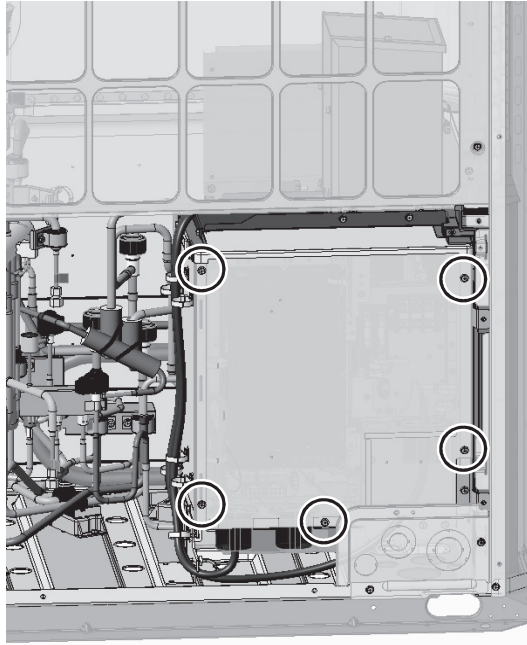

Figure 1
- (1) Ensure there is adequate work space. (See 8-12-1.)
- (2) Remove the control box cover. (5 screws as shown in Figure 1.)